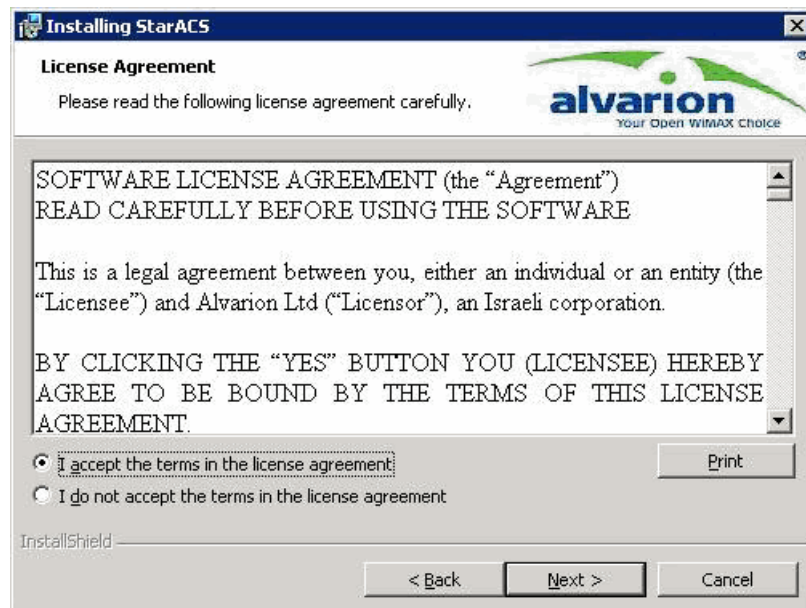

Figure 2: License Agreement
- 2 License Agreement – you must accept the agreement to install StarACS. Click Next (Figure 2).